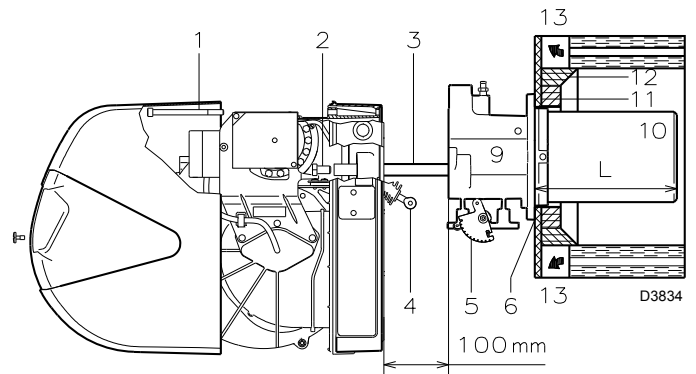
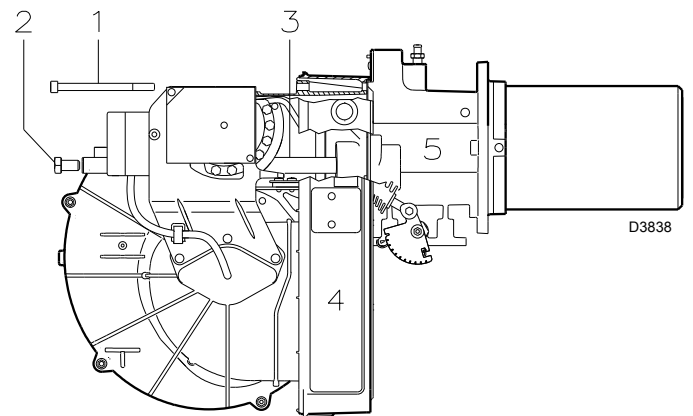

Fig. 10
Fig. 16
For boilers with a water-cooled front piece, a refractory lining 11)-12)(Fig. 10) is not necessary, unless expressly requested by the boiler manufacturer.
- Separate the combustion head from the rest of the burner (Fig. 10):
- Fix the flange 9)(Fig. 10) to the plate of the boiler interposing the insulating flange gasket 6)(Fig. 10) supplied with the unit.
- Once you have finished adjusting the head, reassemble the burner 4)(Fig. 16) on the guides 3)(Fig. 16) at about 100mm from the pipe coupling 5)(Fig. 16) - burner in the position shown in Fig. 10 - insert the cable of the probe and the cable of the electrode, then slide the burner as far as the pipe coupling, burner in the position shown in Fig. 16.
- Refit screws 2)(Fig. 16) on guides 3)(Fig. 16).
- Fix the burner to the pipe coupling with the screw 1)(Fig. 16).